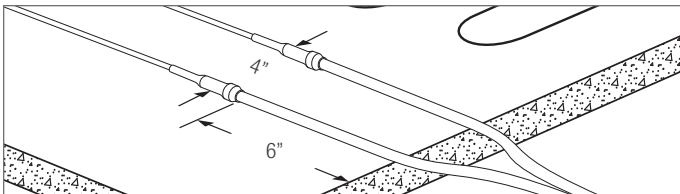

FIGURE 2.31b: Cold Lead Positioning
6. Space the second hot/cold joint at least 4" (100mm) away from first hot/cold joint and 6" (150mm) in from the edge of the slab. See Figure 2.31b.